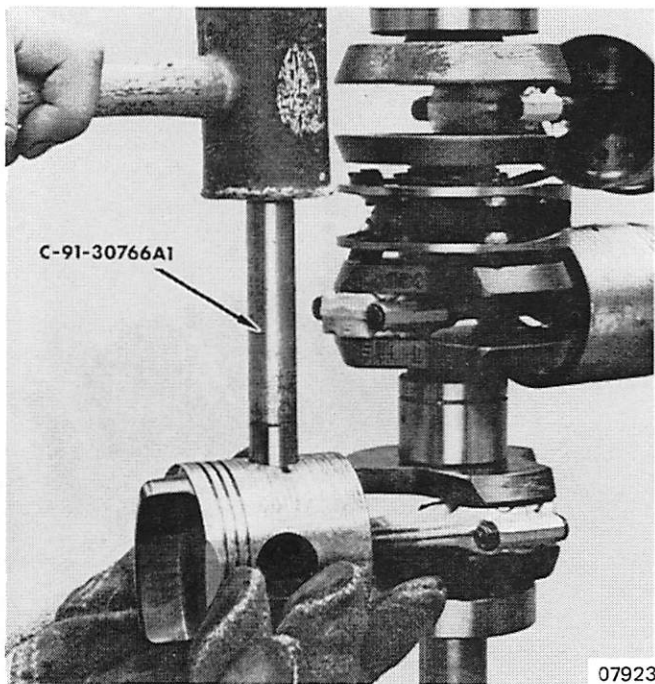
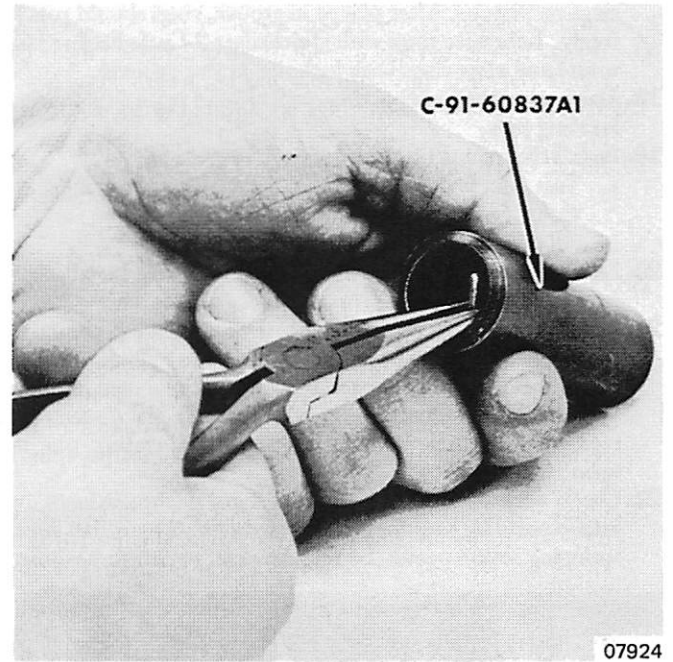

Figure 6. Inserting Piston Pin into Connecting Rod
Figure 7. Inserting Piston Pin Retaining Locking into Tool
16. Install pin (Figure 6) with punch part of tool. Install new lockrings with Lockring Tool (C-91-60837A1). (Figures 7 and 8) Double-check that the ring is seated in groove.